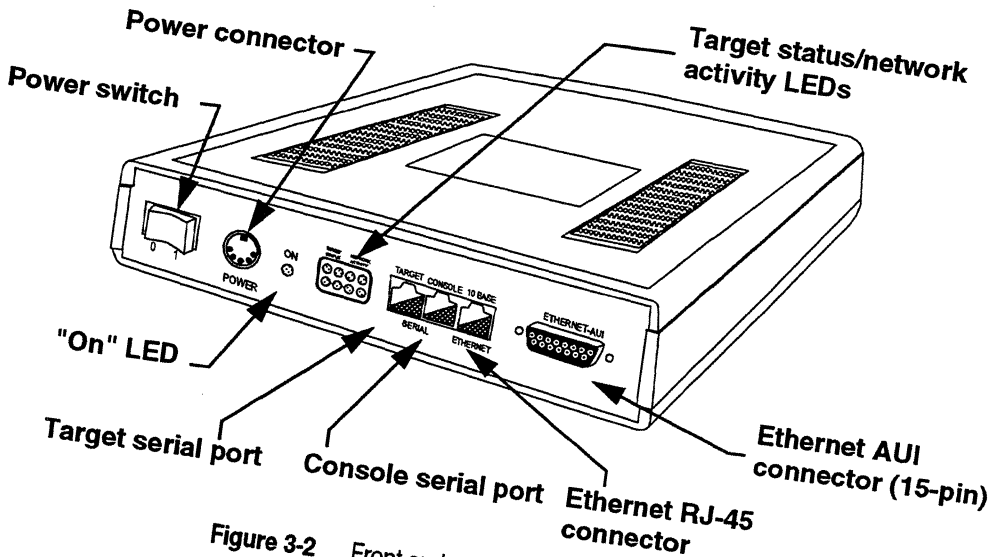
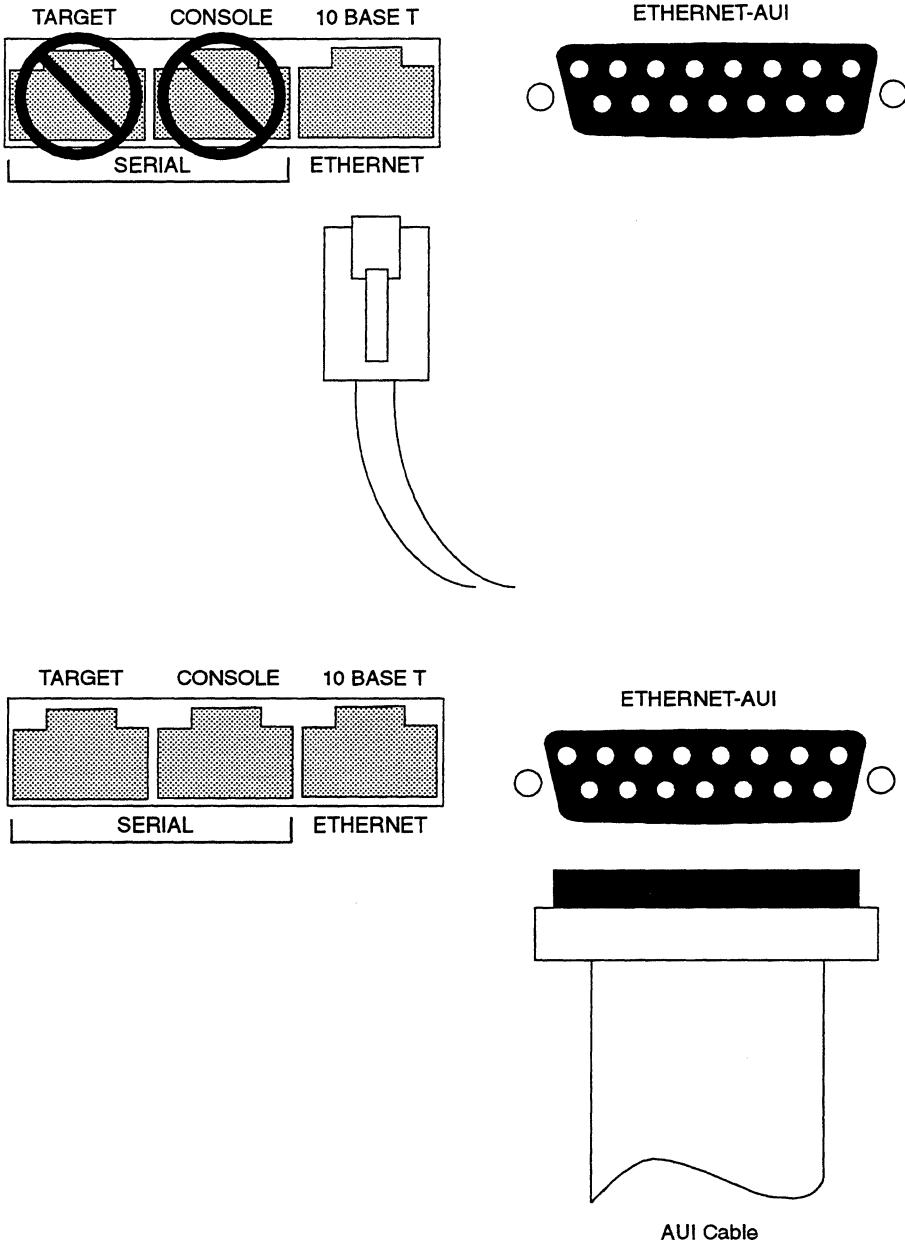

Figure 3-2 Front and rear panel connections
Figure 3-3 Connecting Ethernet
The following sections explain how to install external connections to the various connectors on NetROM. Figure 3-2 illustrates the front and rear panels of the NetROM.
NetROM can be connected to the Ethernet via one of two means. Figure 3-2 on page 3-4 shows the location of the connectors on the back of the NetROM, and Figure 3-3 on page 3-7 shows the two connectors in detail. Note that no switches or jumpers need be set on NetROM when changing the type of Ethernet connection. NetROM automatically configures for whichever network connection is plugged in. If *both* connectors are plugged in, NetROM will use the 10 Base-T interface and ignore the AUI transceiver.
- Connect the transceiver via an Attachment Unit Interface (AUI) cable to the 15-pin AUI connector on the rear panel of NetROM (Figure 3-3).
- Connect to 10 Base-T networks via the RJ-45 connector marked ETHERNET (Figure 3-3).